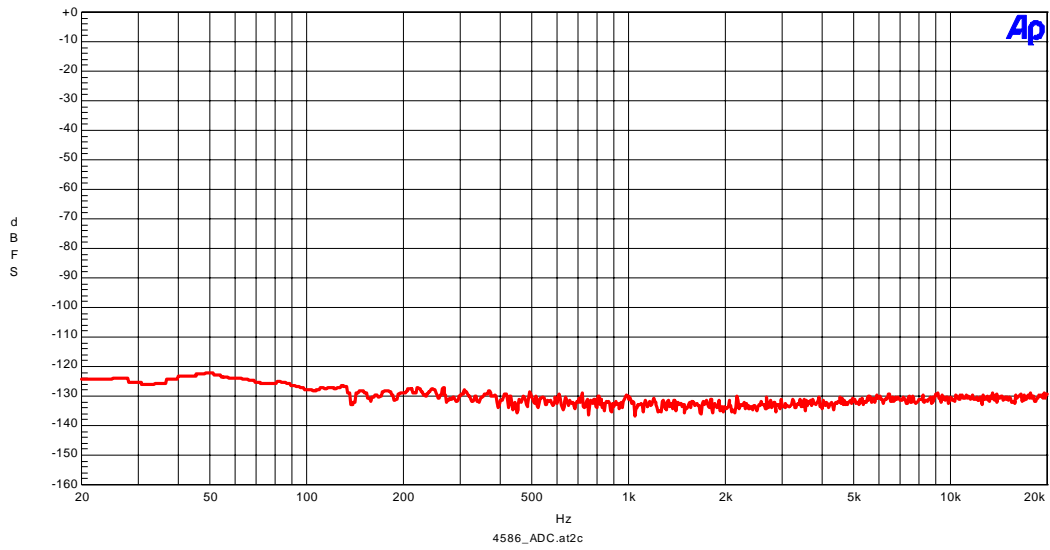

Figure 1-3. FFT (Noise floor)
- Figure 1-3. FFT (Noise floor)